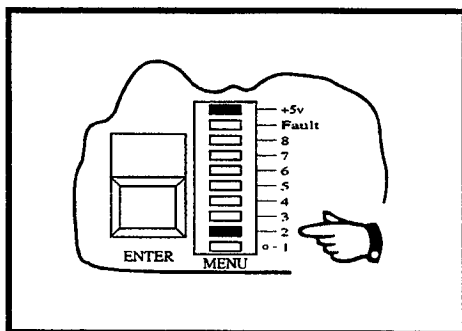

Figure 3-7
- (b) Press the **FUNCTION** key **TWICE**. The LED segment labelled **2** on the **Menu** display should illuminate. This identifies the SPAN menu function. See Figure 3-7.